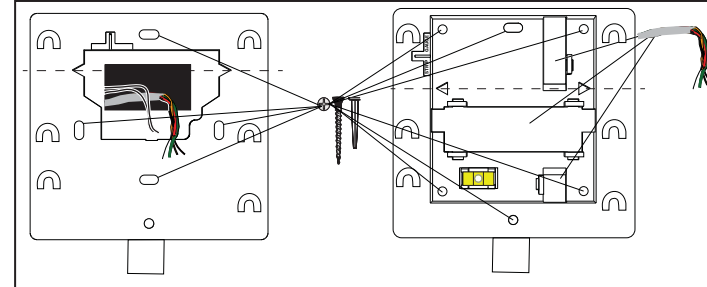

Figure 2.2: Mounting the plate
Choose the flush mounting plate (*Figure 2.2 left side*) for flush mounting, or the surface mounting plate (*Figure 2.3 right side*) for surface mounting.
1. The surface plate includes a bubble level. Use the plate as a template to mark the desired mounting surface with mounting locations. Refer to *Figure 2.2* for mounting hole locations.